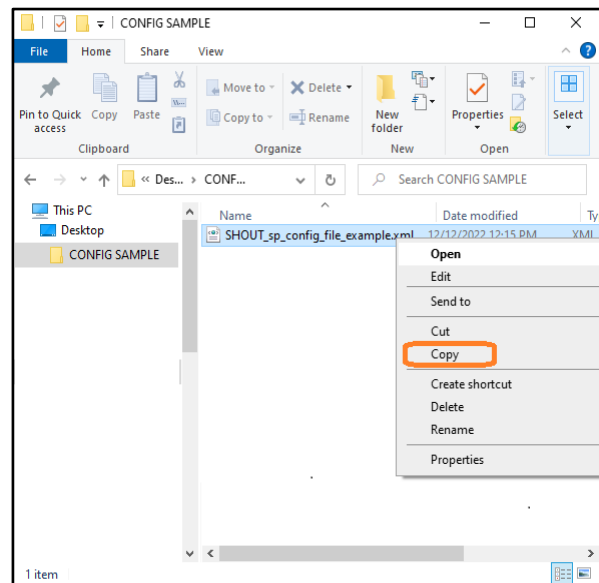

Figure 84: Copy the XML file
A popup menu displays (see Figure 84).
- Select **Copy** (see Figure 84).